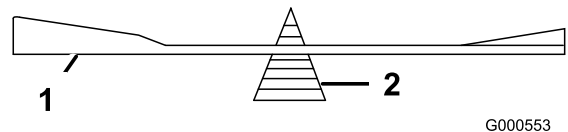

**Figure 50**
1. Use a file to sharpen the cutting edge at both ends of the blade (Figure 50).
**Note:** If the blade is not balanced, file some metal off the end of the sail area only (Figure 50).